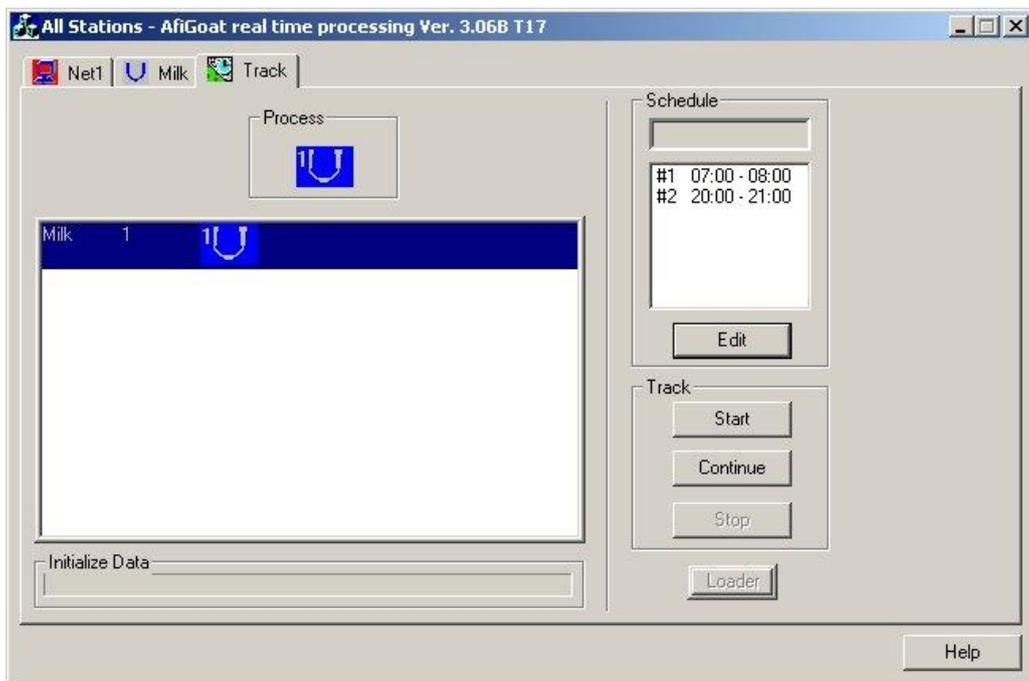

Figure 35: AfiMen Real Time Window - Track Tab
7. Select the Track tab (Figure 35).